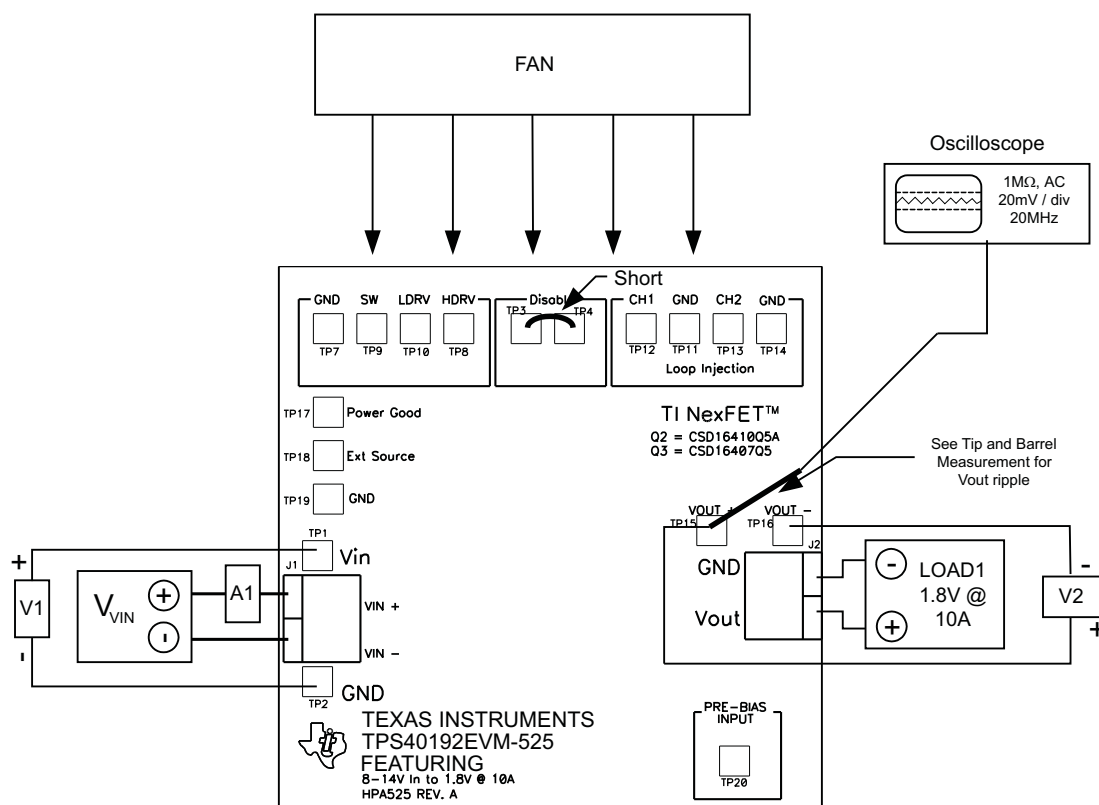

Figure 2. TPS40192EVM-525 Recommended Test Setup
The input voltage source (V_{IN}) should be a 0- to 15-V variable DC source capable of 5 Adc. Connect V_{IN} to J1 as shown in Figure 2.
Shown in Figure 2 is the basic test setup recommended to evaluate the TPS40192EVM-525. Note that although the return for J1 and J2 are the same, the connections should remain separate as shown in Figure 2.
2. Prior to connecting the DC input source, V_{IN} , it is advisable to limit the source current from V_{IN} to 5 A maximum. Ensure that V_{IN} is initially set to 0 V and connected as shown in Figure 2.
3. Connect the ammeter A1 (0- to 5-A range) between V_{IN} and J1 as shown in Figure 2.
4. Connect voltmeter V1 to TP1 and TP2 as shown in Figure 2.
5. Connect LOAD1 to J2 as shown in Figure 2. Set LOAD1 to constant-current mode to sink 0 Adc before V_{IN} is applied.
6. Connect voltmeter, V2 across TP15 and TP16 as shown in Figure 2.
7. Place fan as shown in Figure 2 and turn on, ensuring that air is flowing across the EVM.